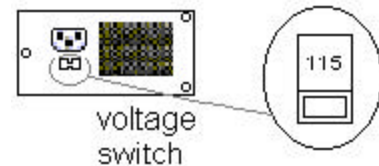

Figure 6
Step 7: Make sure the setting on the new power supply is set to 115V (Figure 6). The power supply is set to 115V when you can only see the "115" label on the voltage switch.